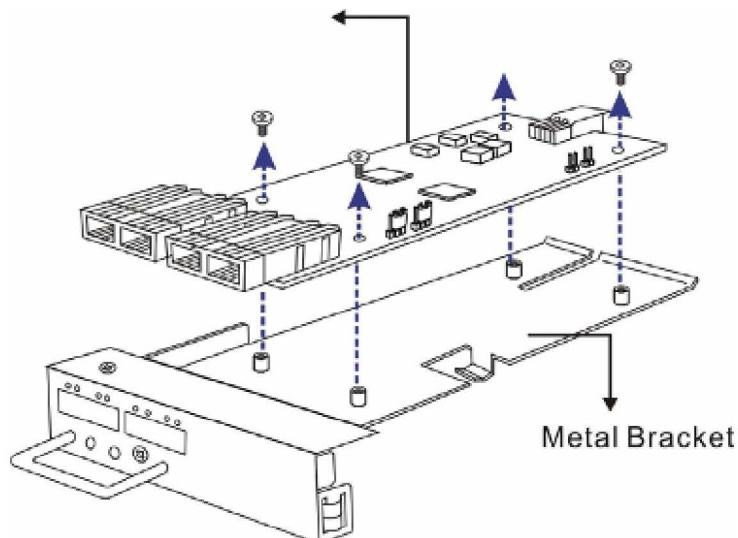

Figure 5-16: Removing the Host Connection Module
Step 4. *Loosen four (4) screws* on the host connection PCB board to remove the board from the metal bracket. Reserve the metal bracket. (See *Figure 5-16*)